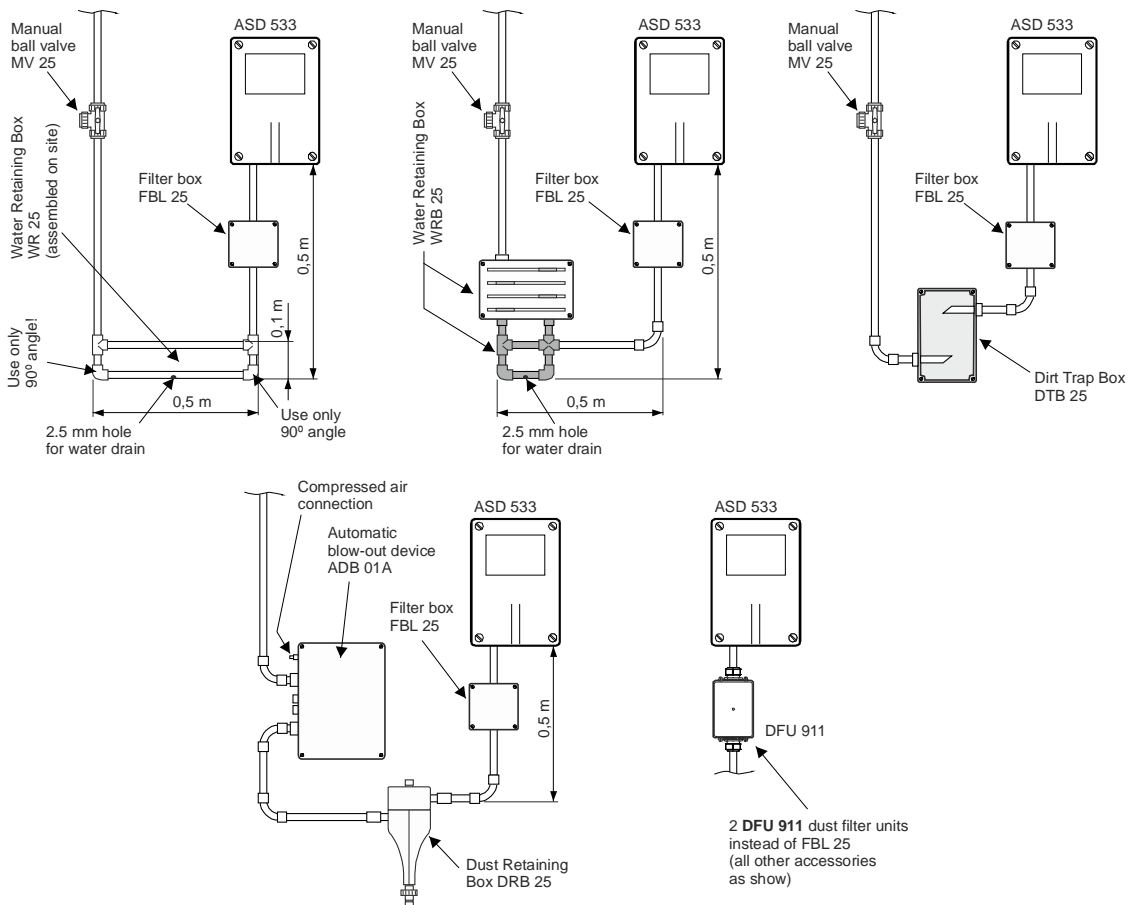

Fig. 29 Mounting accessory parts
- The mounting positions for the water retaining box, dirt trap box and dust retaining box must be observed as indicated in Fig. 29.